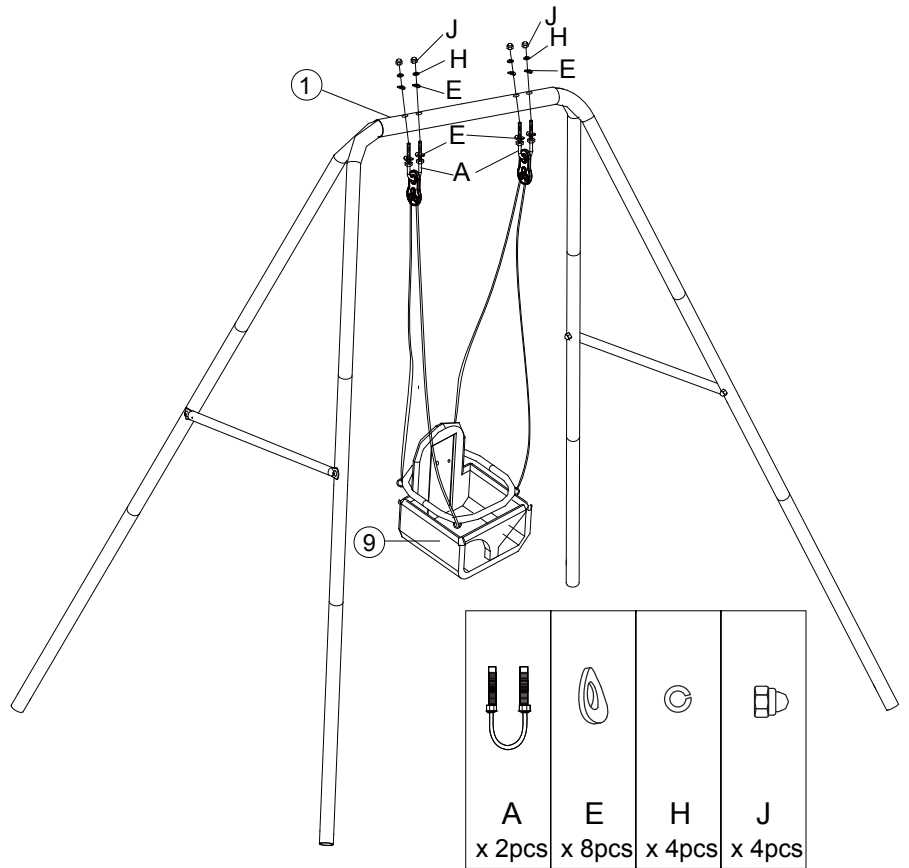

Figure 4-1
Loop U-bolt (A) through the plate at the top of the swing and secure it to Beam (1) using E, H, and J in the sequence shown in FIGURE 4-1